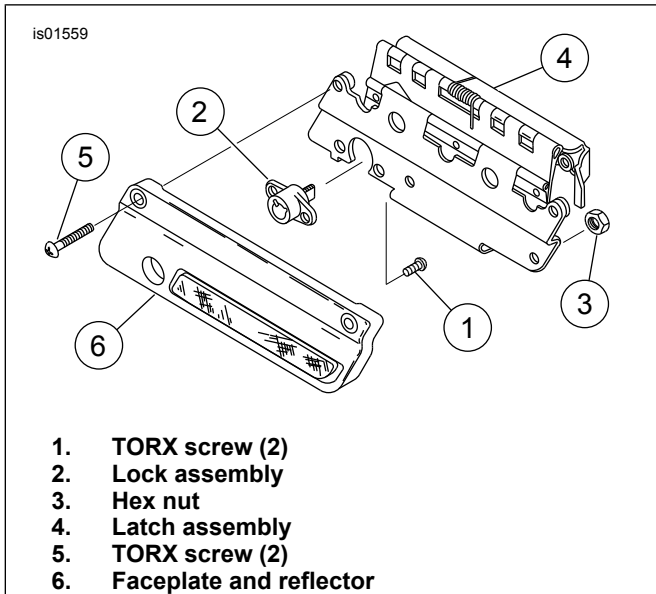

Figure 2. Remove Original Equipment Faceplate
3. See Figure 2. Remove two TORX screws (1) and the lock assembly (2) from faceplate. Save parts for installation.
4. Remove and discard the hex nut (3) holding the stud at the opposite end of the faceplate.
5. Rotate the latch assembly (4) so the faceplate is facing up.
6. Remove and discard two TORX screws (5) and original equipment faceplate with reflector (6) from lock assembly and latch assembly.